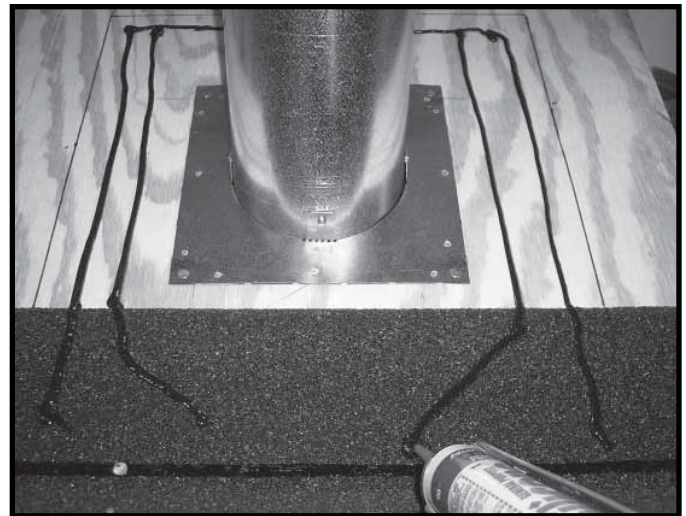

Figure 10.20 Apply Sealant
- Apply silicone sealant to roof inside the lines (Figure 10.20)